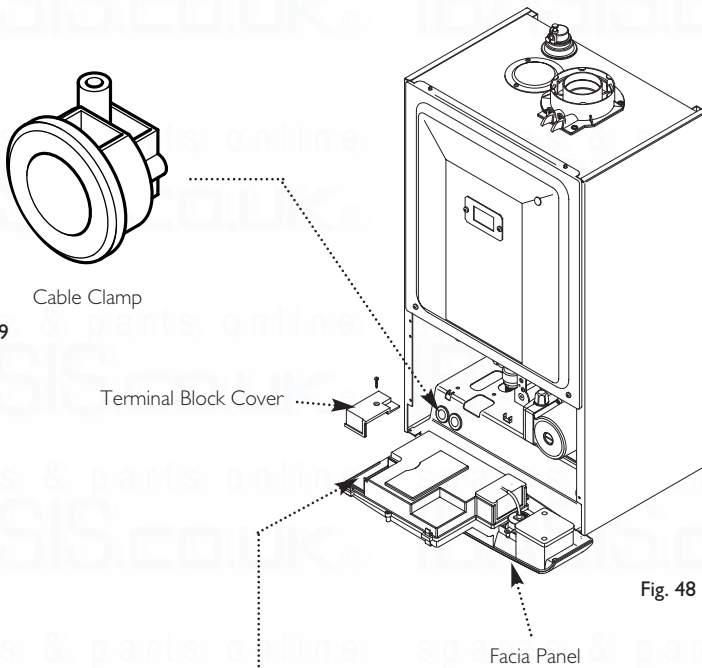

Fig. 48
2. Completely undo the screws securing the fascia panel and hinge it down (Fig. 48).
3. Undo the terminal block cover securing screw and remove the cover (Fig. 48).